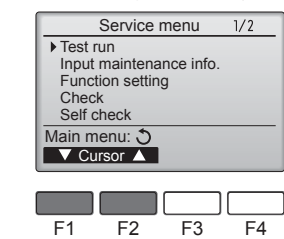

Fig. 6-3
- ③ Select "Test run" with the [F1] or [F2] button, and press the [F4] button. (Fig. 6-3)